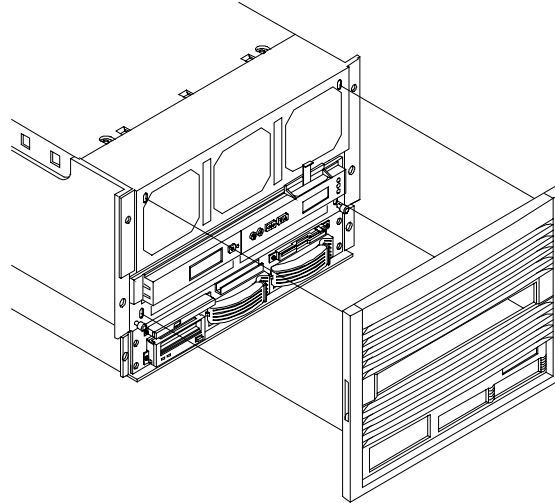

Figure 4-8. Installing the Front Bezel for Compaq Racks
1. Hold the bezel in front of the HP NetServer, as shown in Figure 4-8. Align the four studs on the back of the bezel with the four oval holes indicated in the figure.